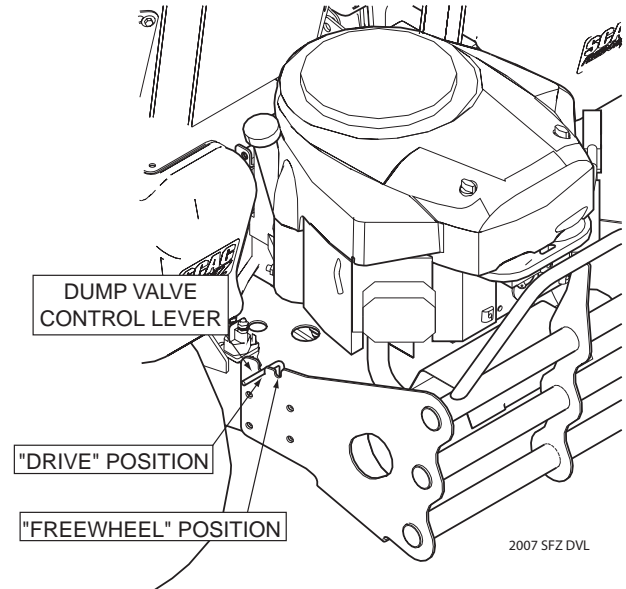

Figure 7-5. Dump Valve Control Lever
- Move the dump valve control levers to the "freewheel" position. See Figure 7-5.
- Engage the parking brake. Move the dump valve control levers to the "drive" position. See Figure 7-5.